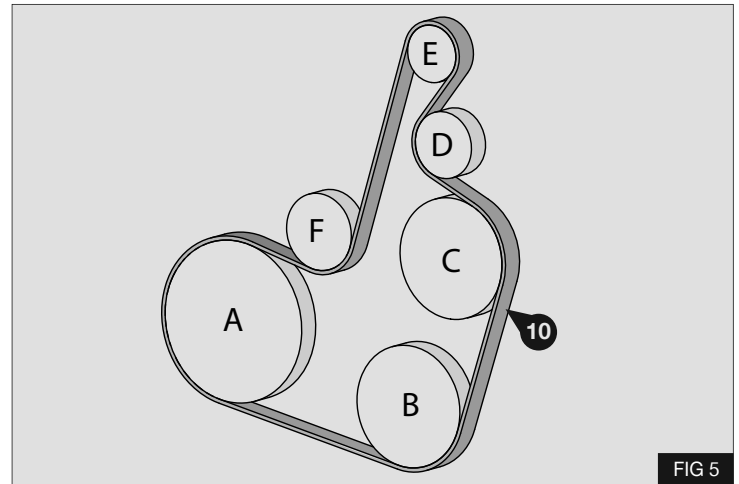

FIG 5
4. Fit the supplied drive belt (10) - Fig 5